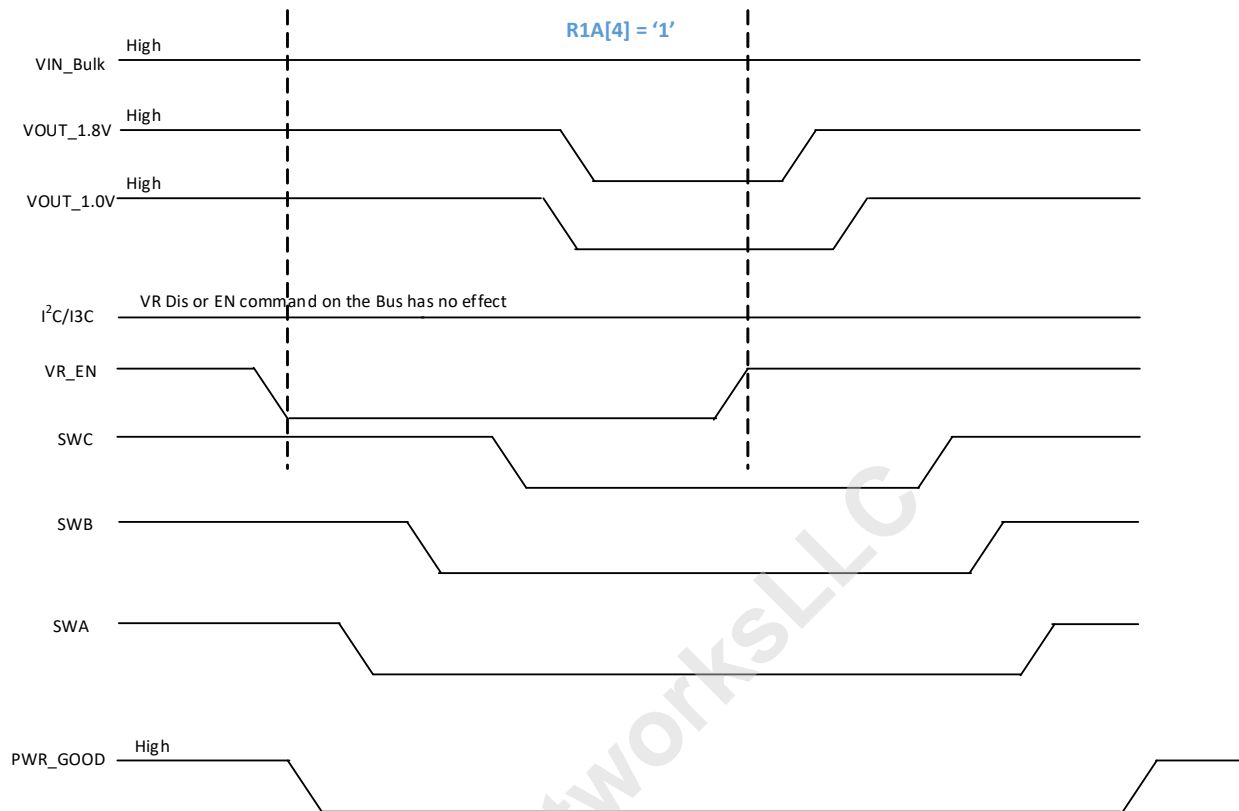

Figure 32 — Power Down with VR_EN Pin; R1A[4]=1; Secure Mode; PWR_GOOD Signal
1. The VR Disable command with VR_EN pin transitions to low. The PMIC asserts PWR_GOOD signal Low. The PMIC executes power off sequence config0 (Table 167, "Register 0x58") to power off sequence config2 (Table 169, "Register 0x5A") to preserve the appropriate voltage relationship as configured in the registers and enters in P1 state. The host can re-enable the PMIC's output regulators by VR_EN pin transition to High. The PMIC exits from P1 state and executes power on sequence config 0 to config 2 registers and floats PWR_GOOD signal after tPMIC_PWR_GOOD_OUT timing parameter is satisfied. See Figure 32. The PMIC does not require power cycle.